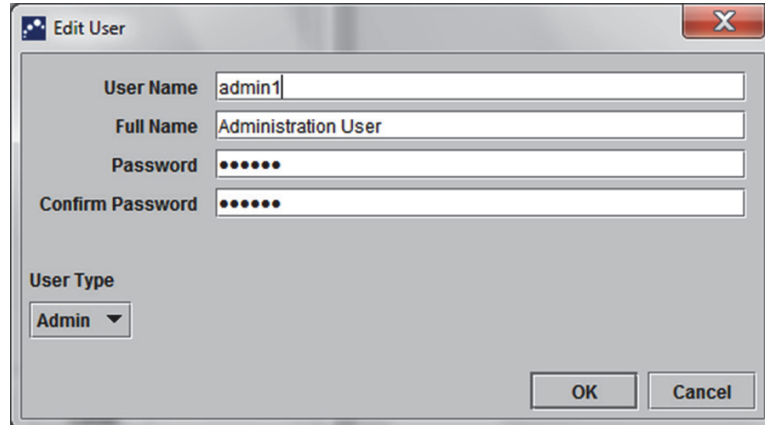

Figure 2-35. Edit User Dialog Box
3. Click **Edit**. The Edit User dialog box appears. See Figure 2-35.